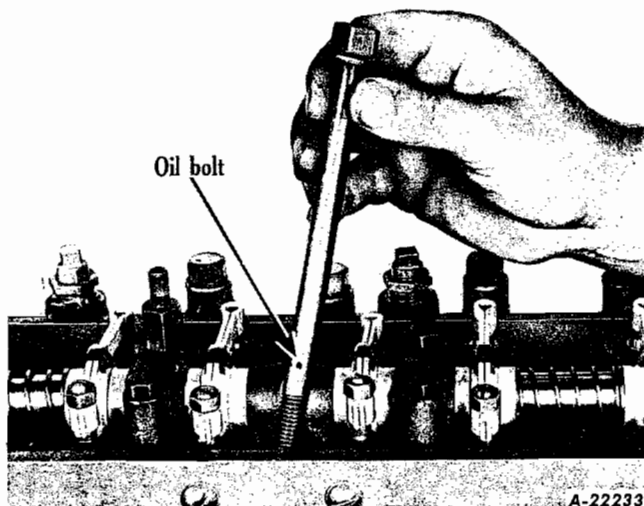

Fig. 2
2. Remove nuts, capscrews and oil bolts from shaft brackets. NOTE: Third bolt from the rear on the left side of the cylinder head supplies oil to rocker arms (Fig. 2).